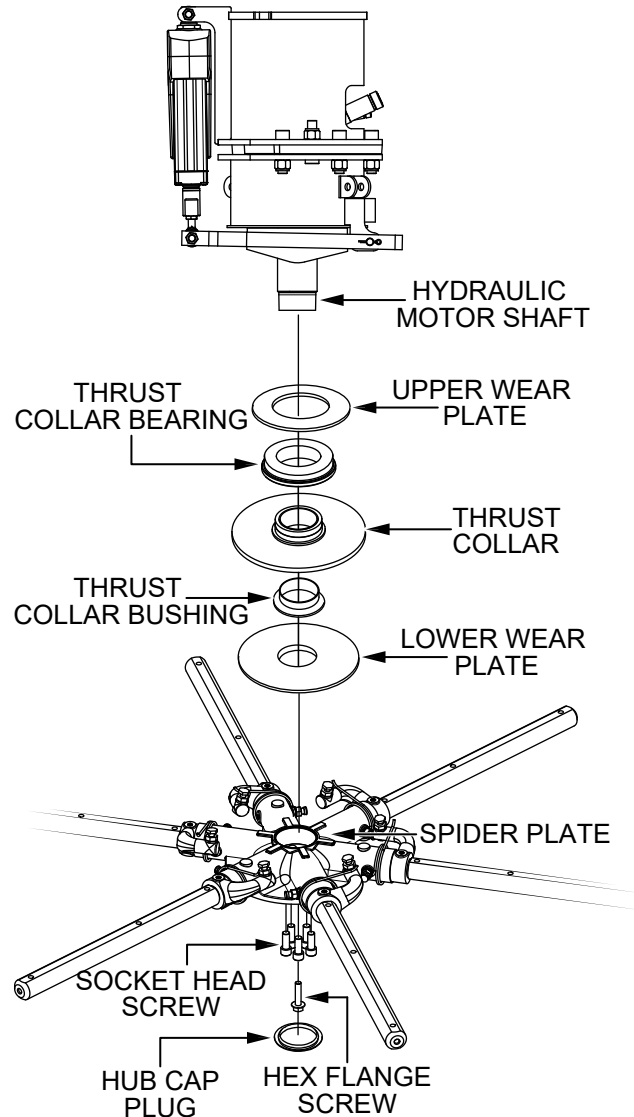

Figure 78. Spider Assembly Components
2. Remove the spider hub cap plug (Figure 78) and set it aside.
3. Remove and set aside the single hex flange screw and five socket head bolts securing the spider assembly to the hydraulic motor shaft (Figure 78).